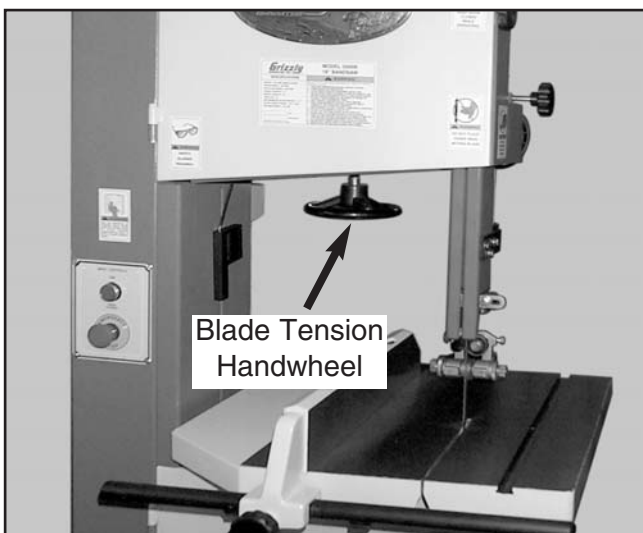

Figure 6. Table installed correctly.
3. Place the large hex bolt with washer through the table trunnion mount and the trunnion. The assembly should now look similar to **Figure 6**.